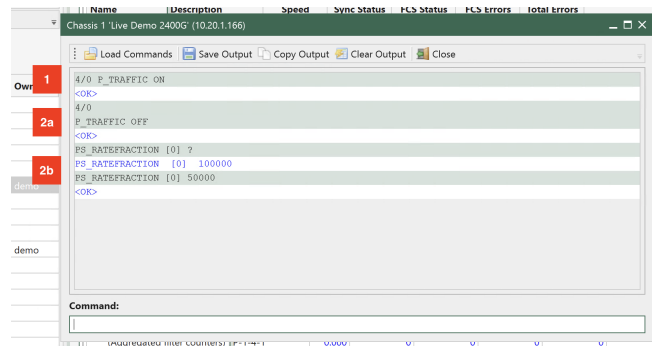

Fig. 4.32: Use the Script Client
Once the script client is open, you can directly input script commands. The use of the script client is illustrated in Fig. 4.32.
1. Writing the <MODULE>/<PORT> in front of the command. (See Fig. 4.32 - step 1, which illustrates how to apply the command to module 7 and port 0).
2. First, enter the <MODULE>/<PORT> (Fig. 4.32 - step 2a). Subsequently, enter the commands, which will then be executed on the module and port previously configured (Fig. 4.32 - step 2b).
Because the module and port will depend on the chassis configuration, all script commands in the following will be listed without the module and port values, i.e. to use the script command examples directly in the script client, the user is required to configure the <MODULE> / <PORT> in advance as illustrated in Fig. 4.32 - step 2a.